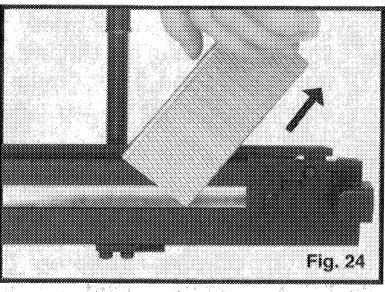

Fig. 24
- B. Slide remaining staples to rear and lift out of magazine (see Fig. 24).